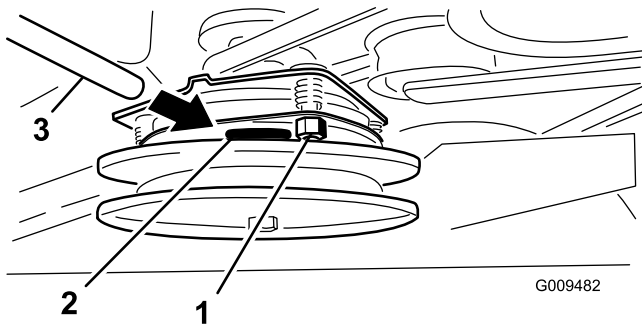

Figure 58
2. If adjustment is needed, then set at 0.381 mm (.015 inches) for each of the three adjustment slot positions. Tighten the lock nuts until there is slight binding on the feeler gauge but it can be moved easily within the air gap (Figure 58).